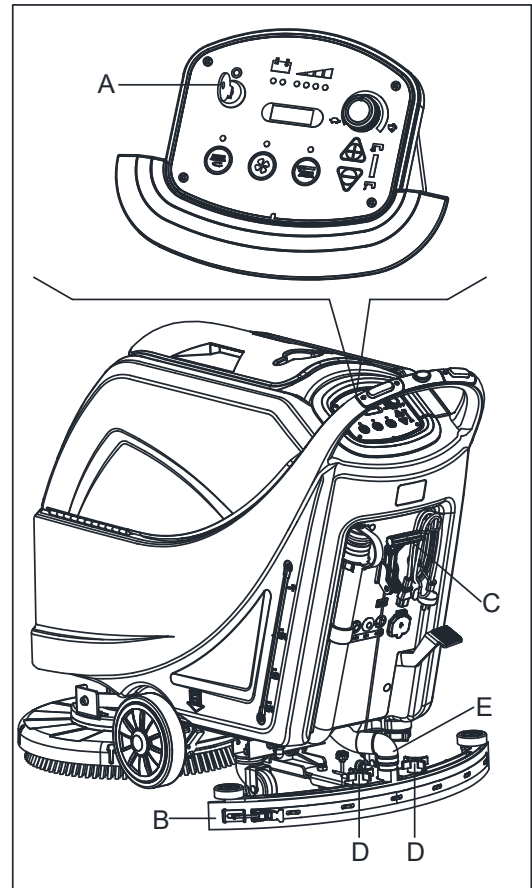
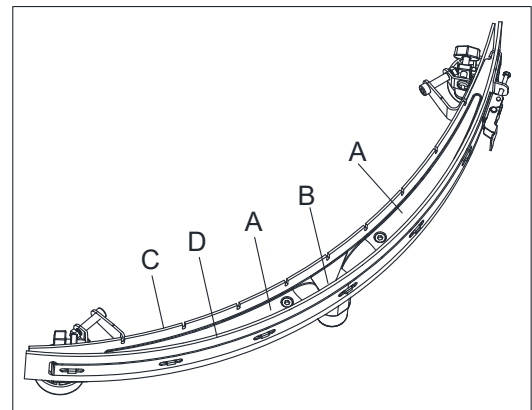

Figure 17
Figure 18
2. Turn the ignition key (A, Figure 17) to "0".
3. Lower the squeegee (B) with the lever (C).
4. Loosen the knobs (D) and remove the squeegee (B).
5. Disconnect the vacuum hose (E) from the squeegee.
6. Clean the steel or the aluminum squeegee (Figure 18). Clean the compartments (A) and the hole (B) especially. Check the front blade (C) and the rear blade (D) for integrity, cuts and tears; if necessary replace them (see the procedure in the following paragraph).